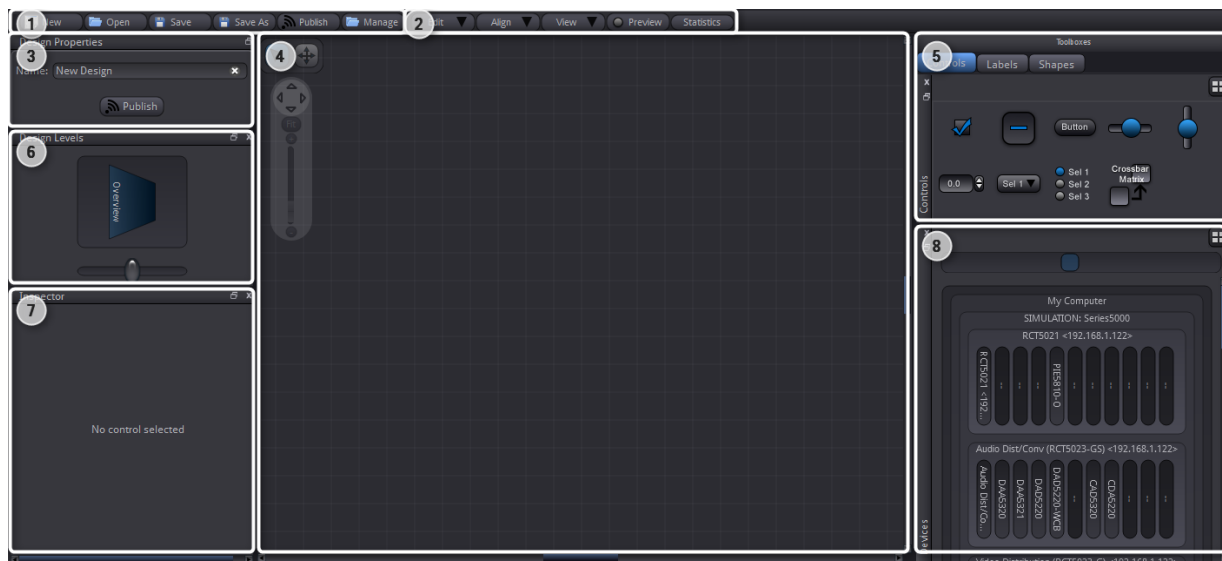

figure 1: Layout of CustomControl editor window
See area (1) in figure 1: A CustomControl Design is stored and managed like a regular file on the hard-drive of your workstation. The usual functions provided here let you create a new Design, save your latest changes etc. The "Manage Designs ..." button shows the list of all available Designs, and allows for import/export/deletion of any such Design file.
See area (2) in figure 1: A few assisting functions make the editing of a Design easier. You can select, cut, copy and paste elements, you can undo and redo your recent changes, and you can also display a grid-line overlay to help with the correct alignment of elements.
See area (3) in figure 1: This section controls various properties of the current Design (i.e. the Design that is currently loaded into the Editor). Use these functions to change the Design's name. In addition, here is the "Publish ..." button that can be used to actually publish the Design onto a named Server in your LYNX network. For more details, see page 10.
See area (4) in figure 1: This central area is where you build your Custom Design. The various possibilities and workflows are described in the example on page 10.
See area (5) in figure 1: Various different content elements are provided as the building blocks that you will use to populate your Design. The elements are structured in various toolboxes.
See area (6) in figure 1: You can use one or more Container elements in your Design (from the "Shapes" Toolbox), and then place individual controls either into
See area (7) in figure 1: The ParameterPicker Tool is a representation of all devices (real or simulated) with all their properties and parameters that are currently connected to this APPolo GUI. Real devices are, however, presented only if the appropriate Server has the OC\_\*\_CUSTOMCONTROL option activated.
In the inspector area (see area 8 in figure 1) the assigned parameter of the selected control can be customized. The Inspector Tool not only enables you to access and edit the parameter and value names but also provides detailed information about the parameter of the control selected in the Main Editor Area.